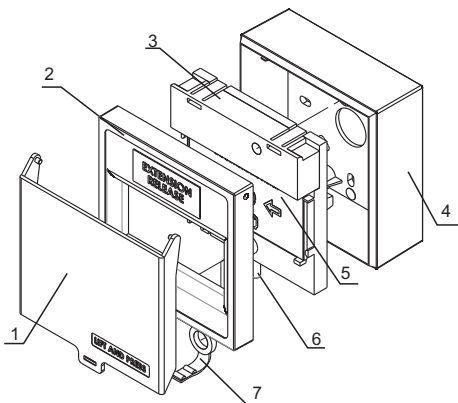
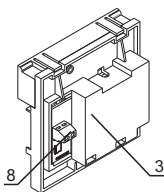

Fig.1
Fig.1a
The button has a built-in switcher with one normally open contact and resistor of 1,5 kΩ. When pressing the button, the contact is closed and commutates circuit through resistor of 1,5 kΩ. FD3050 G consists of : surface mounting back box (pos.4, fig.1), a carrier unit (pos.3, fig.1), a glass element with protective sticker (pos.5, fig.1), a test key (pos.6, fig.1), a breakable seal (pos.7, fig.1), a cover (pos.2, fig.1) and a protective cover (pos.1, fig.1).
1. Dismantle the cover (pos.2, fig.1) and replace the glass element, (pos.5, fig.1) and the torn breakable seal (pos.7, fig.1).
1. Dismantle the basic components of the unit, shown on fig.1 by unscrewing the fixings.
3. Join the wires of the input line to terminals (pos.8, fig.1a), located on the rare side of the carrier unit (pos.3, fig.1).